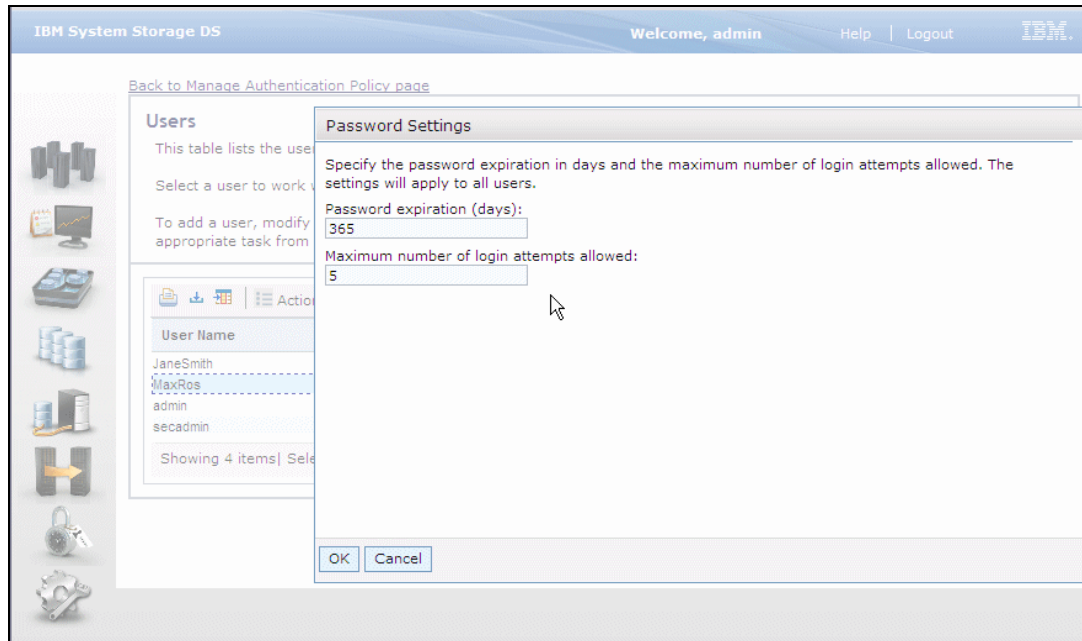

Figure 9-14 Password Settings window
6. The **Password Settings** window is where you can modify the number of days before a password expires, and the number of login retries that a user gets before the account becomes locked, as shown in Figure 9-14.